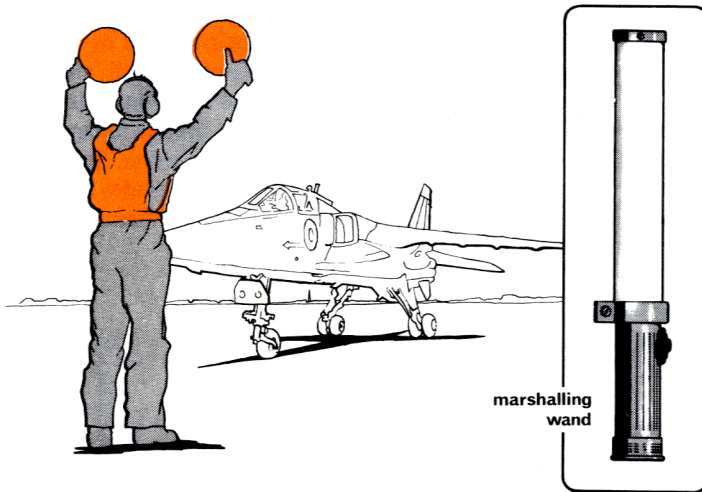

Fig. 3. The Marshaller
5. A handling party, led by a senior NCO, is appointed to greet and marshal the aircraft to its parking position. Since the RAF has no specialist trade of 'aircraft marshaller', the handling party, often referred to as the 'duty crew', is made up of an adequate number of fully-trained aircraft tradesmen. In short, you and your colleagues. In anticipation of the aircraft's arrival, the SNCO briefs the marshalls on the route the aircraft is to take and directs them to their respective stations. Each marshaller is equipped with a yellow-orange waistcoat, which is intended to make him conspicuous, and when available two bats, similar to table-tennis bats, with which to make the appropriate signals to the aircraft pilot. At night the same signals are made using special illuminated wands (Fig. 3). When receiving aircraft fitted with gas turbine engines he will also, of course, be wearing ear defenders. As each marshaller reaches his particular station he will stand where he can be seen by the pilot when the aircraft reaches the area under his control. Since the pilots of large aircraft occupy the seat on the port side of the cabin, the safe standard marshalling position is one ahead of the aircraft and in line, approximately, with the port wing tip (Fig. 3). Whilst it may seem advantageous to stand directly ahead of the smaller, combat-type aircraft, where the pilot is able to look ahead as well as on either side, there is the hazard of the jet intake area to be considered. Any miscalculation of the extent of this danger area – particularly easy to do at night – could mean that there is indeed a marshaller 'dead' ahead.
6. Once the aircraft leaves the taxiway it passes out of the hands of the Air Traffic Controller and, from this point on, its safe movement becomes a matter of teamwork between the taxiing pilot and the marshalls. At the entrance to the parking area the aircraft is met by the first of the marshalls who attracts the attention of the pilot in the manner shown in Fig. 3. Having made contact with the pilot by what is virtually a 'this way please' signal, the marshaller proceeds to usher the aircraft forward whilst other members of the team take up positions at the wing tips of the aircraft. By using standard signals they will indicate clearance, or otherwise, to the pilot and the current marshaller. If the aircraft is required to taxi a considerable distance, marshalls will be spaced along the route and the aircraft passed from one marshaller to the next by the appropriate 'over to you' type of signal. In